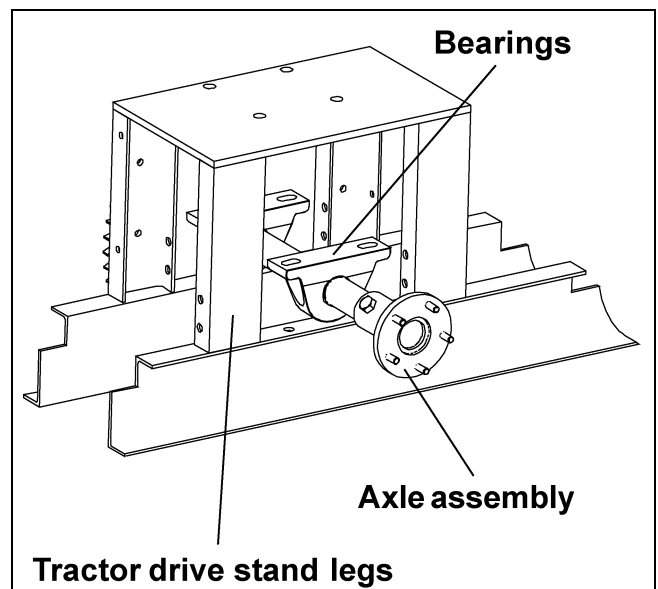

Figure 5J
- C. Slide the axle assembly between the legs of the tractor drive stand as shown in Figure 5J.
- D. Rotate the pillow block bearings until the bases are facing up. (See Figure 5J.)